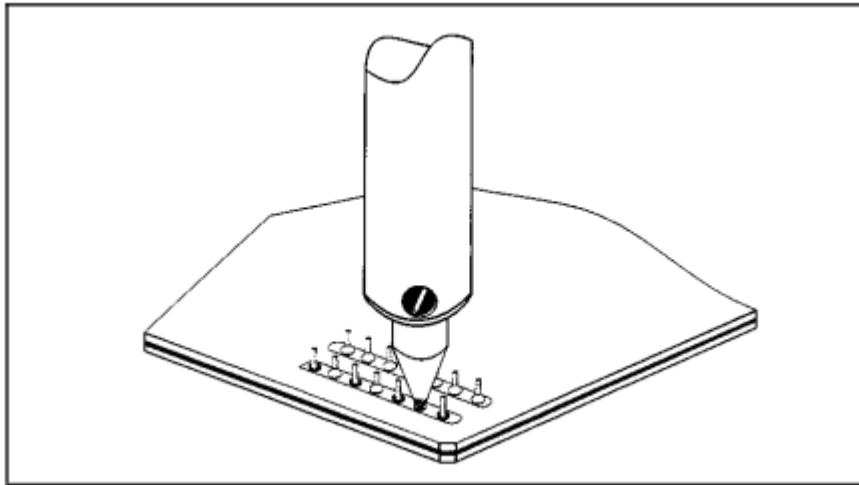

Figure 3 Melt Solder
12. Confirm complete solder melt of contacted lead. (See Figure 3.)